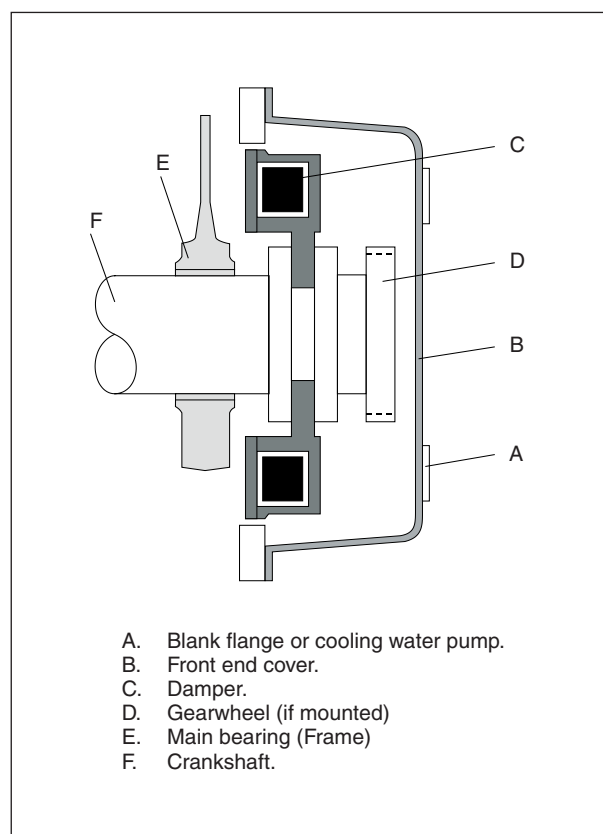

Fig. 1. Mounting of Vibration Damper.
2. For access to the damper remove the blank flange (A) on the front end cover (B) see fig. 1.